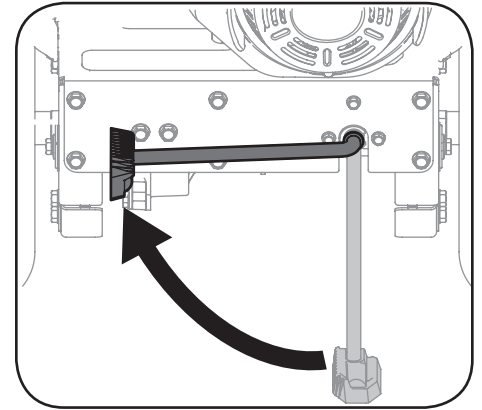

Figure 4-2
1. Roll the FLEX™ Power Base over to the chipper shredder attachment with the kickstand UP. See Figure 4-2.